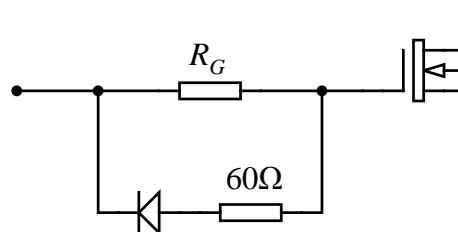

Figure 3b
- d. To accelerate the turn-off process, the circuit in Figure 3a is modified by connecting a series diode-resistor network in parallel with  $R_G$  as illustrated in Figure 3b. Assuming the diode has ideal characteristics (i.e. negligible forward voltage drop while conducting), what is the turn-off delay time and the turn-off switching time. (4)